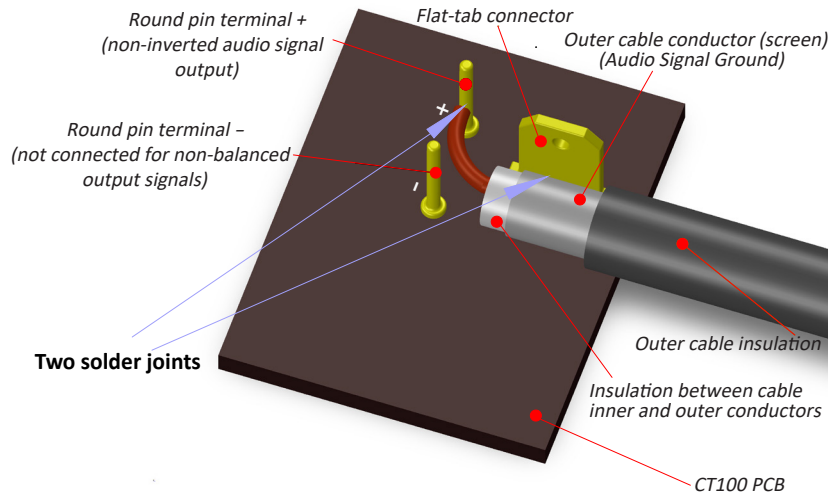

Fig. 4. CT100 audio signal output connections, non-balanced
For each channel, the signal-ground wire (the cable outer conductor/screen/braid/foil for screened cables) must be soldered to the flat tab connector. The signal wire (the cable centre conductor/core for screened cables) must be soldered to the round pin terminal *marked +*. See fig. 4 below. The terminal marked + is the non-inverted signal output.
6. Connect (solder) OUT 1/2 to XLR or RCA sockets. See "Signal output" and Fig. 4/5 above.